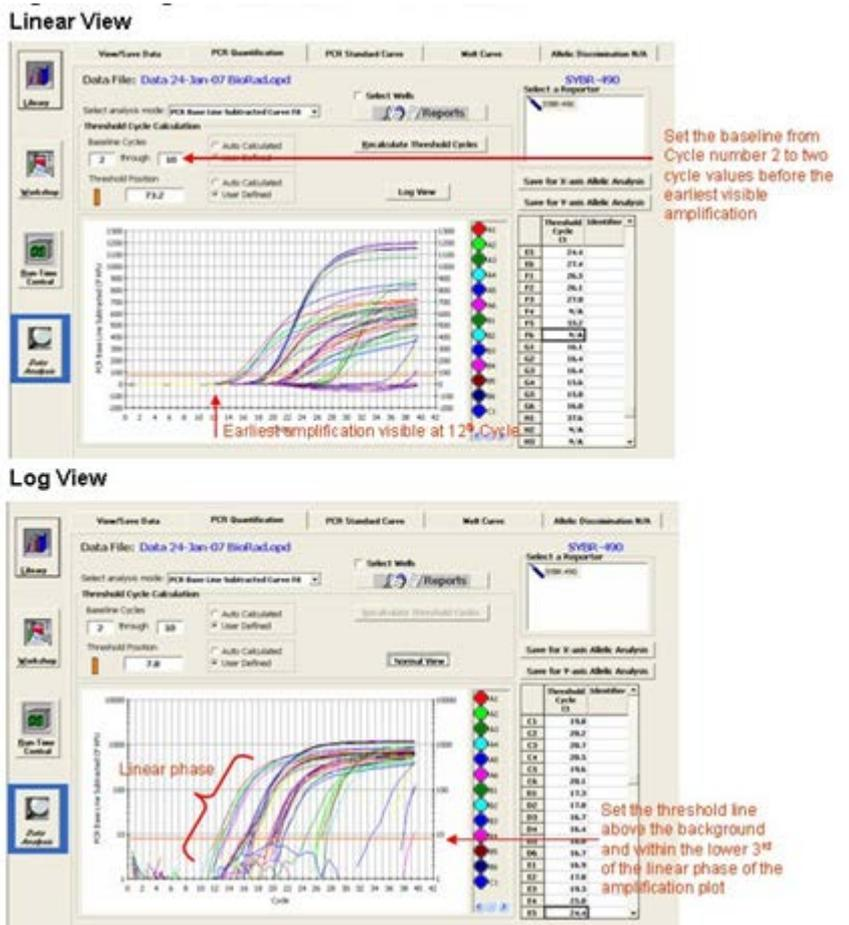

Figure 5. Setting the baseline and threshold value.
12. Follow the procedures below to calculate the threshold cycle (Ct) for each well (See Figure 5):